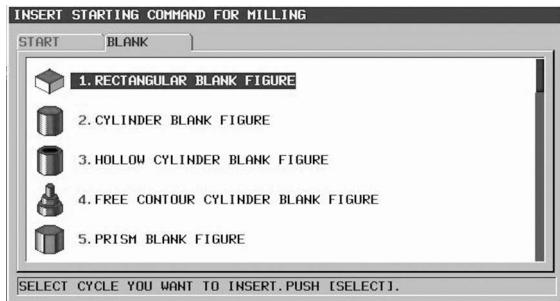

Figure 7-43 RECTANGULAR BLANK FIGURE
- Then press the START soft key (Figure 7-42). Use the cursor key to advance to the BLANK tab and then select 1. RETANGULAR BLANK FIGURE from the list (Figure 7-43). Press the SELECT soft key.